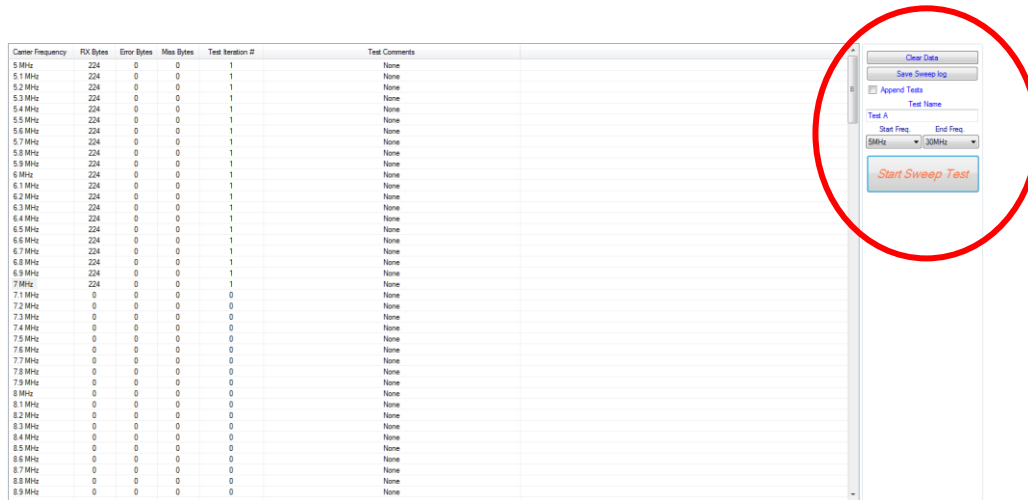

Figure 7 – Sweep BER Test TAB in the process
8. The Sweep BER Test tab includes a real-time updated BER measurement table per carrier frequency, and a test frequency range settings as shown in Figure 7. Set the Sweeper Start Freq. and End Freq., and then click on the Start Sweep Test button.
9. The Sweep BER Test starts with transmitting the ABCD...Z pattern @ Start Freq. retrieves from the RX device the number of received bytes, error bytes, and miss bytes, then it will move to Start Freq. + 0.1MHz spacing, retrieve the BER results, and so on... until reaching the End Freq. The Test will continue a cyclic transmission from Start Freq. to End Freq. until the user stops the Test by clicking the Stop Sweep Test button as shown in Figure 7.